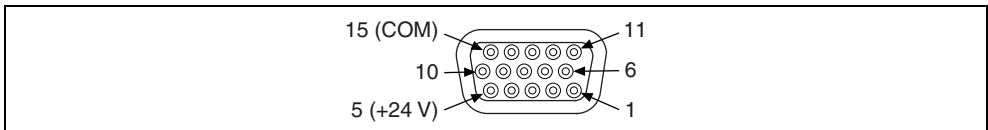

Figure 2. 15-Pin D-SUB Pinout
1. Wire the voltage output of the power supply to pin 5 (+24 V) on the D-SUB connector, shown in Figure 2.
2. Wire the common signal (ground) output of the power supply to pin 15 (COM) on the D-SUB connector, shown in Figure 2.